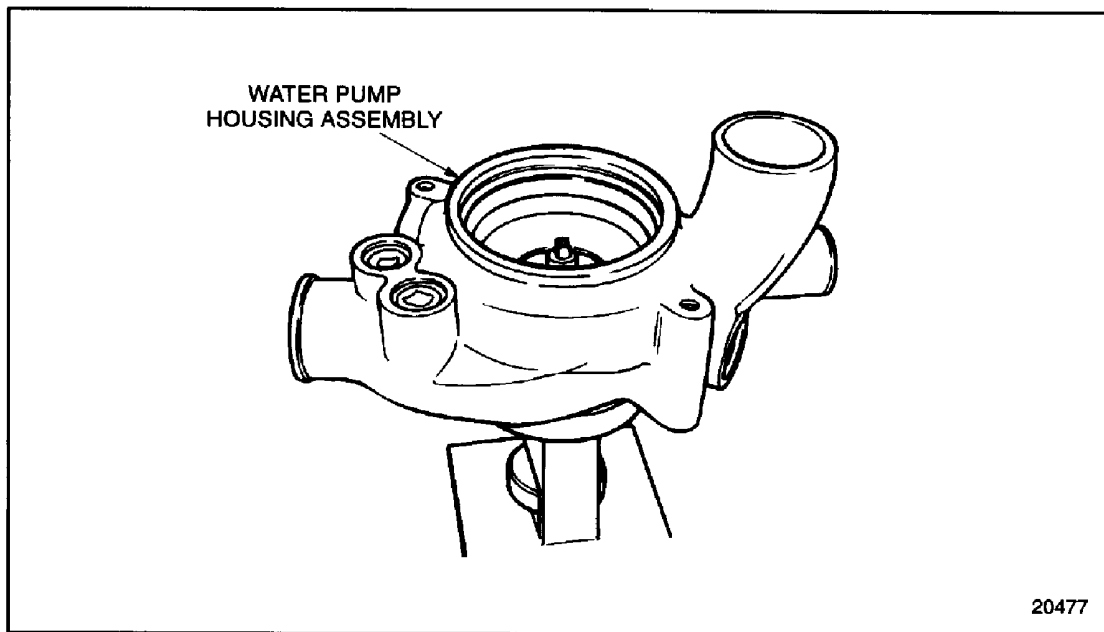

Figure 4-23 Water Pump Impeller Installation Set-up
13. Install the water pump housing assembly to the fixture. See Figure 4-23.